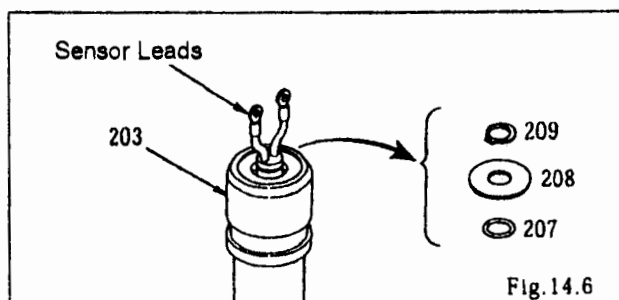

Fig. 14.6
- ① Turn off power.
- ② Remove cover (310) on the terminal box (⇒ See Page 12).
- ③ Disconnect the cable for external wiring connections (⇒ See Page 12).
- ④ Remove shield strip (307) (⇒ See page 12).
- ⑤ Disconnect sensor leads (⇒ See Page 12).
- ⑥ Loosen hex socket head Setscrews (301) and extract the preamplifier upward.
- ⑦ Remove C-shaped Stop ring (209) for shaft (Fig. 14.6).
- ⑧ Remove O-ring retainer (208) and O-ring (207) (Fig. 14.6).